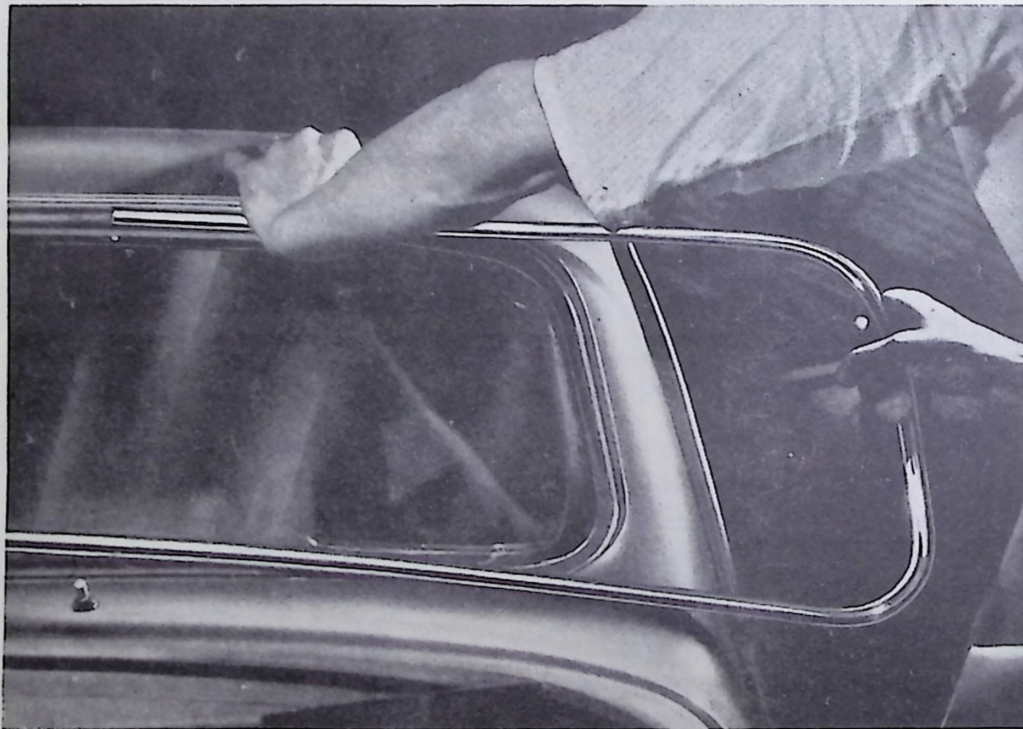

Fig. 4. Fitting Windscreen Beading—Stage 1.
- (2) With a small brush smear the outer surface of the surround liberally with a solution of soft soap and water, and with the aid of the brass strip, previously mentioned, work in a quantity of the soap solution into the groove in which the chrome moulding fits.
- (3) Slide the right-hand portion of the moulding into position over the rubber, until the end is approximately half-way across the screen, Fig. 4, page N6, and with the tongue in engagement with the groove. Now commence to work the tongue of the corner of the moulding into the groove by forcing the moulding home inch by inch and partially withdrawing it after each movement and so